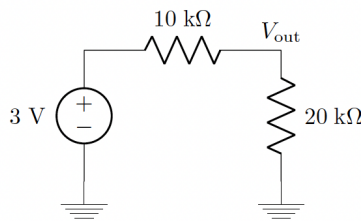

Figure 1: Resistor circuit.
- P1. For the voltage divider in Figure 1, calculate V_{out} and the current through the 20 k Ω resistor.